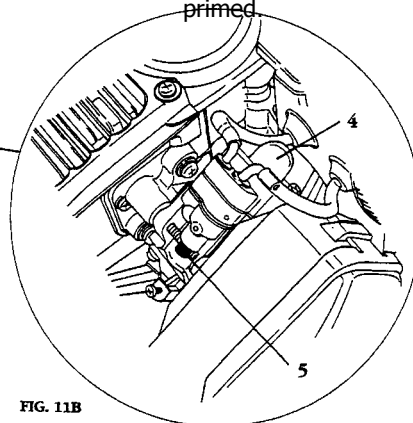

FIG. 11B
- d. (FIG. 11B) Priming bulb (4), when pressed, delivers fuel from the tank to the carburetor. Use priming bulb for cold starts or if engine ever runs completely out of fuel.
- e. (FIG. IIB) Fuel injection button (5) forces fuel from the carburetor to the combustion chamber for cold starts. Used after carburetor is primed.